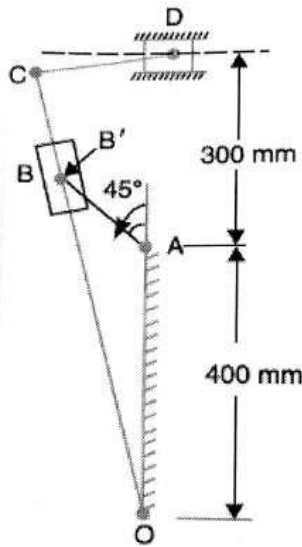

Fig.4
- Q.5 A mechanism of a crank and slotted lever quick return motion is shown in Fig.4 If the crank rotates counter clockwise at 120 r.p.m., determine for the configuration shown, the velocity and acceleration of the ram D. Also determine the angular acceleration of the slotted lever. Crank, $AB = 150$ mm; Slotted arm, $OC = 700$ mm and link $CD = 200$ mm. 15